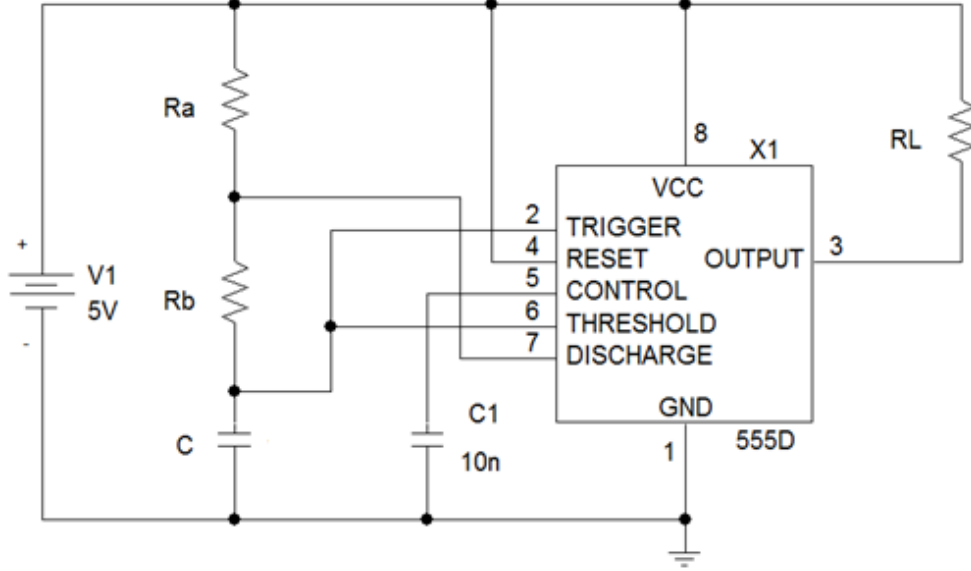
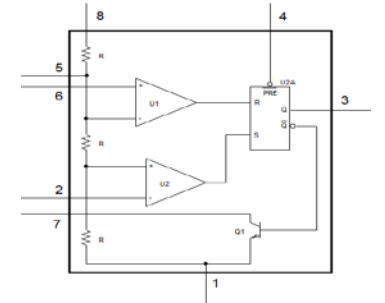
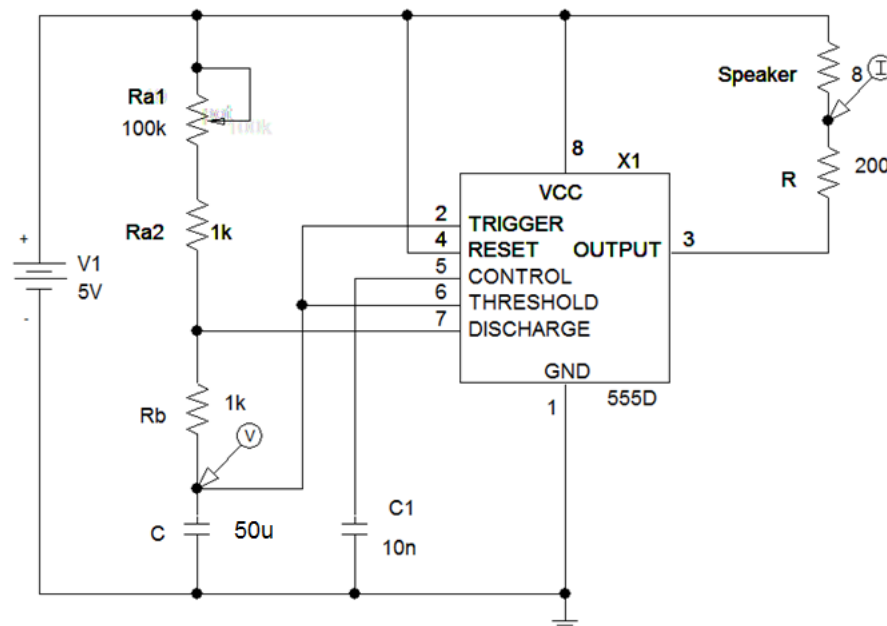

Fig. 1: Schematic for an astable multivibrator with output resistor  $R_L$ .
Fig. 2 Schematic of the 555 timer circuitry.
Fig. 3 Schematic of metronome circuit
In this experiment, the square wave output of a 555 timer chip, configured as an astable multivibrator, will be used to drive a speaker to obtain the sound of the beat. The frequency of the astable multivibrator circuit, shown in Figure 1, is determined by the time required to charge a resistor-capacitor network composed of  $R_a$ ,  $R_b$ , and  $C$  and to discharge a resistor-capacitor network of  $R_b$  and  $C$ . Internal to the 555 timer chip are two voltage comparators U1 and U2 (see Fig. 2). These two comparators are designed to keep the voltage across the capacitor  $V_C$ , which is also the voltage on pins 2 and 6 of the 555 timer chip, between 1.67 V and 3.33 V. When  $V_C = 3.33$  V, the output of comparator 1 resets the RS flip-flop (U2A) and causes a transistor to be activated, which connects ground to pin 7 of the timer chip. This forces the node between  $R_a$  and  $R_b$  to be equal to 0 V. The capacitor will then discharge the stored charge on its plates through  $R_b$  to ground until the voltage on the capacitor decreases to 1.67 V. When  $V_C = 1.67$  V, the second comparator causes the transistor to be turned off, opening a switch between ground and pin 7. This allows a current to flow from  $V_{CC}$  through  $R_a$  and  $R_b$  to charge the capacitor. The output of the 555 timer (pin 3) is the output Q of the RS flip-flop whose state is set and reset by the output of voltage comparator U2 and U1, respectively. Thus, the output from a 555 timer is a logical “1” or close to 5V while the capacitor is charging and is a logical “0” or approximately equal to 0V while the capacitor is discharging.
The resistance of most speakers and piezoelectric buzzers is very small. The resistance of the speaker in the Lab-in-a-Box parts kit is only  $8\Omega$ . If only the speaker replaced  $R_L$  in Fig. 1, the maximum current that would flow through the speaker,  $I = 5V/8\Omega = 0.625\text{ A}$ , is larger than the 555 timer can supply and the power dissipated by the speaker,  $P = (5V)^2/8\Omega = 3.125\text{ W}$ , would exceed the power rating of the speaker, which is  $0.5\text{ W}$ .  $R_L$  should be replaced by the series combination of a speaker and a current limiting resistor (Fig. 3). In the circuit to be constructed,  $R_a$  is composed of trim pot and fixed resistor to prevent the case where  $R_a = 0\Omega$ .
6. Construct the circuit shown in Figure 3. Be sure to connect the electrolytic capacitor so that the polarity of the capacitor is correct (the positive terminal should be connected to  $R_b$ ; see Section 3.9.).